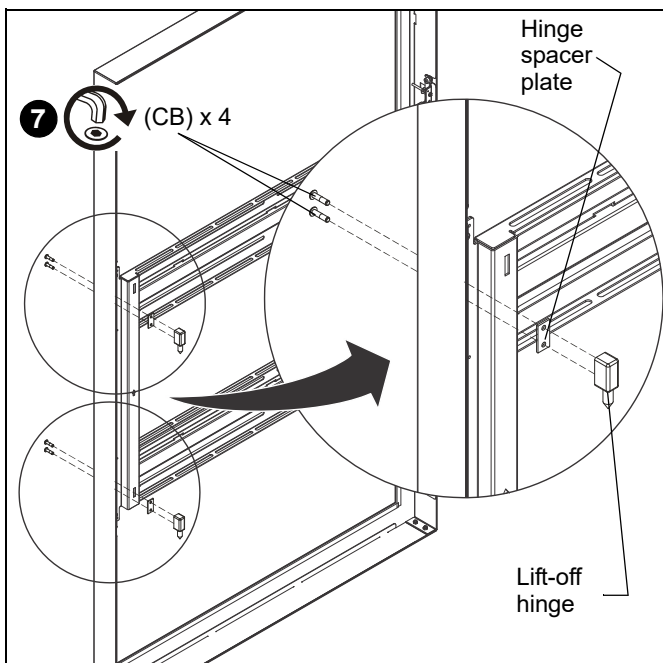

Figure 15
6. Replace two lift-off hinges and hinge spacer plates onto opposite side (left) of swing door. (See Figure 15)
7. Fasten in place with four (two each hinge) **NEW** 10-32 x 3/4" button head cap screws (CB). (See Figure 15)